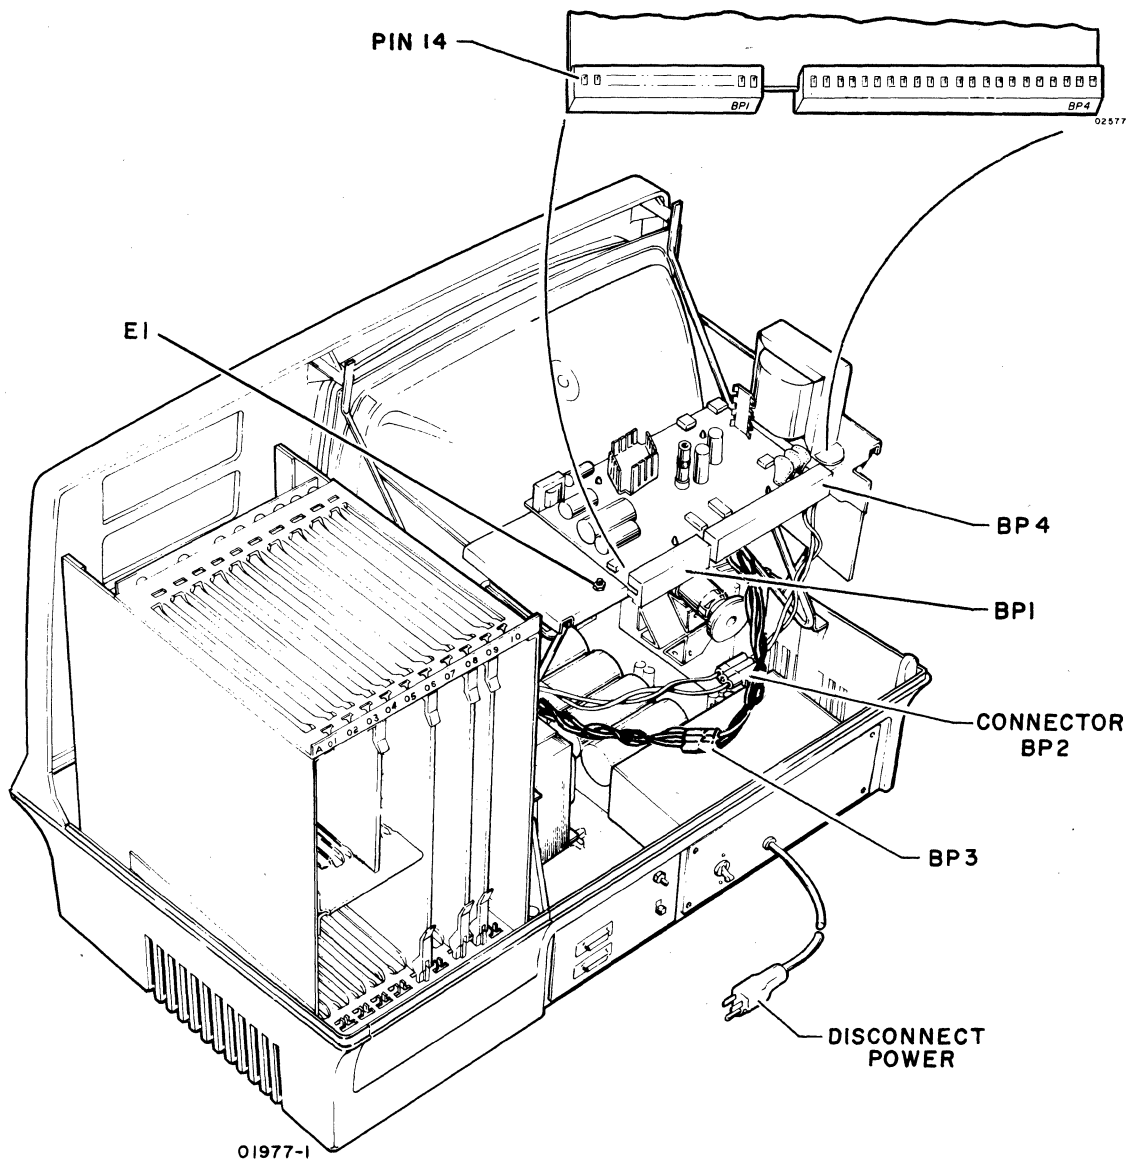

Figure CRT13. Video Module Connector Removal
- 2) Disconnect flag terminal 14 from BP1 connector (from crt ground clip) by inserting small end of paper clip into top of connector in space available between flag terminal and insulation (see figure CRT13) and then pulling out wire gently from bottom of connector. (Flag terminal end has a wedge-type spring clip which, when released by paper clip, permits flag terminal to be withdrawn with wire from connector.)*
- 3) Refer to figure CRT13 and disconnect connector BP1.